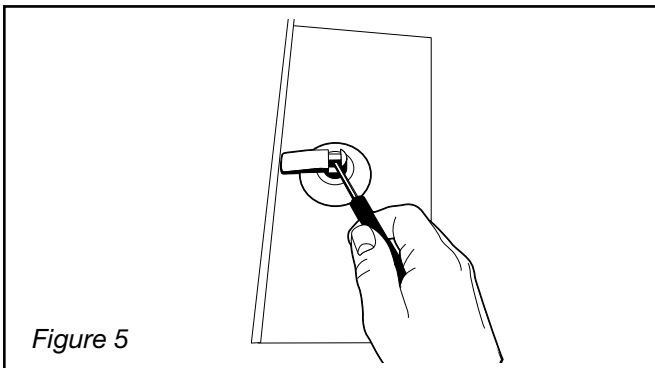

Figure 5
4. Insert the blade of a small screwdriver under the lip of the retaining wedge and pry the wedge out. See Figure 5.